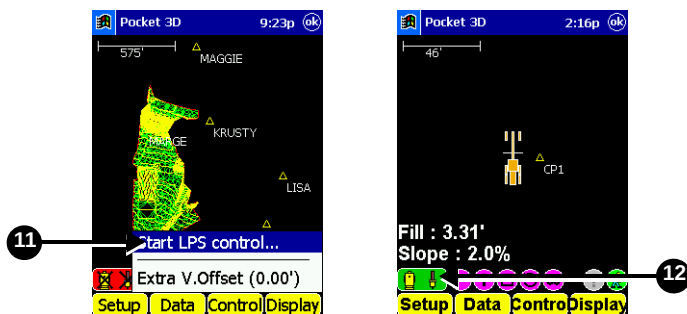

Figure 8-10. Start 3D LPS Control and Check Status
- Sight the GRT-2000 telescope on the LS-2000 prism again, and press **Control ▶ Start LPS Control** to start 3D LPS control (Figure 8-10 on page 8-12).
- Check the GRT-2000 and LS-2000 icons, they should turn from a red status to a green status, indicating that 3D LPS control functions correctly (Figure 8-10 on page 8-12).